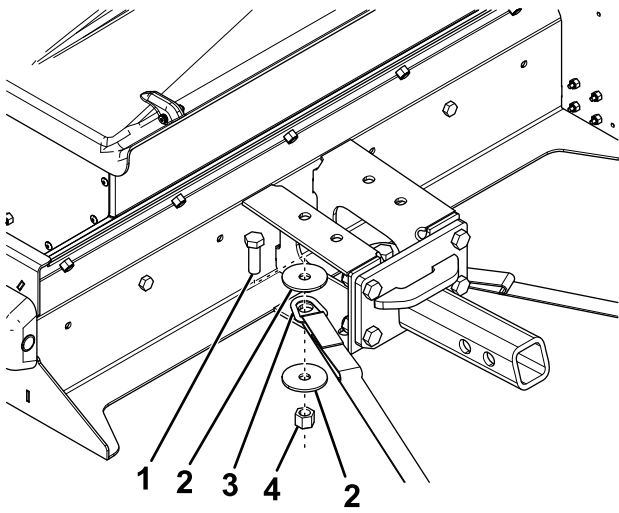

Figure 14
- Attach the D-ring end of the ratchet straps to the spreader mounting bracket using 2 bolts (1/2 x 1-1/2 inch), 4 washers (1/2 inch), and 2 locknuts (1/2 inch) as shown in Figure 14.